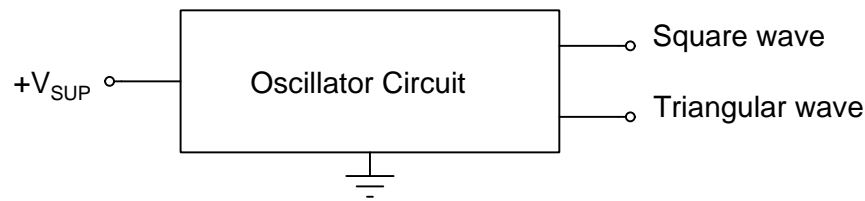
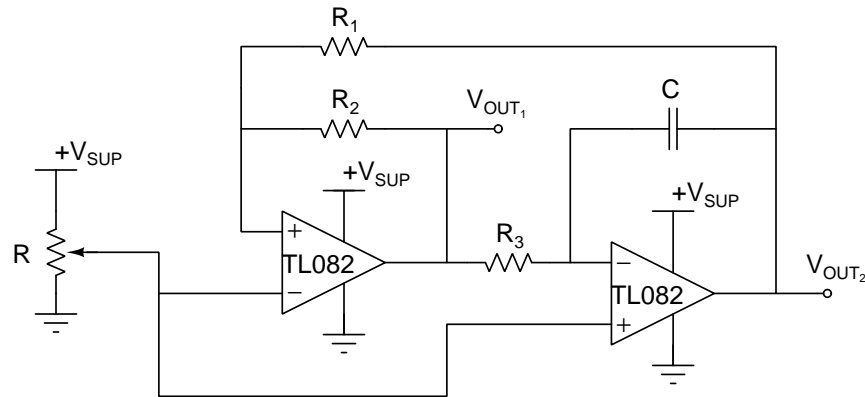

Figure 1: Block diagram of the oscillator circuit.
Figure 2: Oscillator circuit using a Schmitt trigger and an inverting integrator.
Introduction: Two TL082 Operational Amplifiers (OpAmps) are used to produce an oscillator. A block diagram is shown in **Figure 1**, and the oscillator circuit is shown in **Figure 2**. The oscillator is formed by connecting the output of a Schmitt trigger to the input of an inverting integrator, and connecting the output of the inverting integrator back to the input of the Schmitt trigger. The only input to the circuit is a DC voltage $+V_{SUP}$. The circuit produces both a square wave and a triangular wave output signal.
1. Describe how the circuit in **Figure 2** functions. Sketch the shape of the expected output signals V_{OUT1} and V_{OUT2} as a function of time. Assume the variable resistor is set to the mid-point resistance.
4. Use NGSpice to simulate the circuit of **Figure 2** with the TL082 OpAmp. What is the simulated value of the oscillation frequency? What is the duty cycle?
Build the oscillator circuit in **Figure 2** using the component values you determined in the Pre-Lab. Set the potentiometer (variable resistor) near the mid-point resistance.